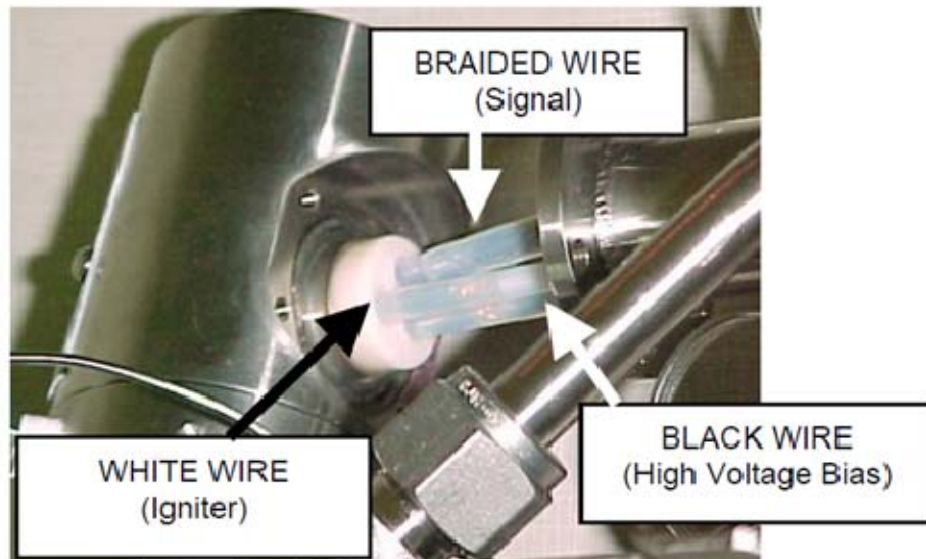

Figure 4
16. Pull the purge tube about 1 inch away from the detector assembly and carefully disconnect the bias, igniter, and signal cables from the FID block by pulling straight out from the block using needle nose pliers. Refer to Figures 4 and 5.
35. Push the bias, igniter, and signal cables onto the connection pins of the FID block using fingers or needle nose pliers. If using pliers, take care not to damage the Teflon® insulation or crimp the ends of the cables. Refer to Figures 4 and 5 for connector pin location.